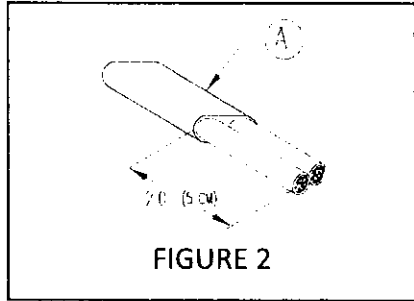

FIGURE 2
## 2. Assemble Cable Boot (Fig. 2 thru 7)
- 2.1 Strip the outer cable jacket (A) 2.0 in. [5 cm] (Fig. 2).